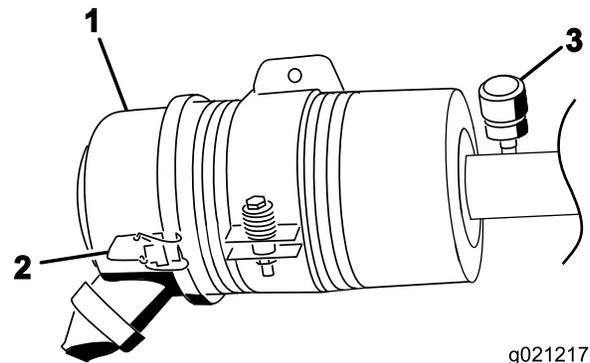

Figure 34
Service the air cleaner filter only when the service indicator (Figure 34) requires it. Changing the air filter before it is necessary only increases the chance of dirt entering the engine when the filter is removed.
1. Release the latches securing the air cleaner cover to the air cleaner body (Figure 34).